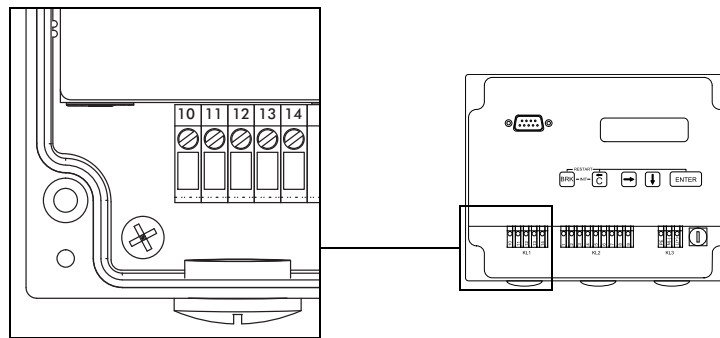

Fig. 6.6: Terminals of the transmitter
- Connect the leads to the terminals of the transmitter (see Fig. 6.6 and Tab. 6.1).